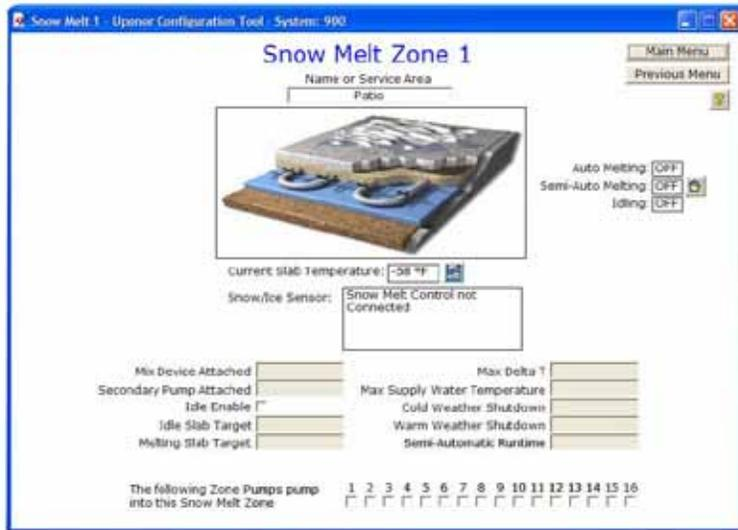

Figure 2.12-3: Snow Melt Details Screen
- Click on a **Snow Melt** button to bring up a Snow Melt Zone screen which displays additional graphics shown in **Figure 2.12-3**.